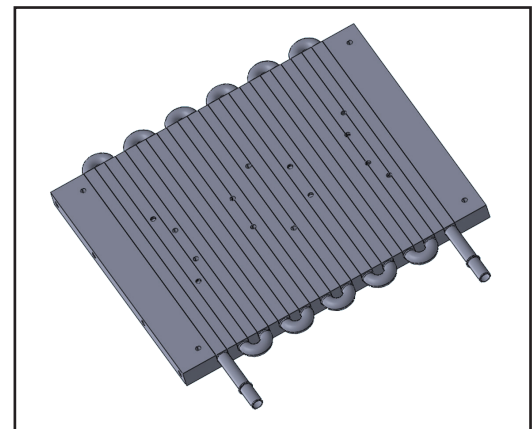

Figure 2. The Original Cold Plate Featured 12 Tube Passes and 11 Tube Bends
- Four cold plates at 1000 W each (4000 W total) (Figure 2)